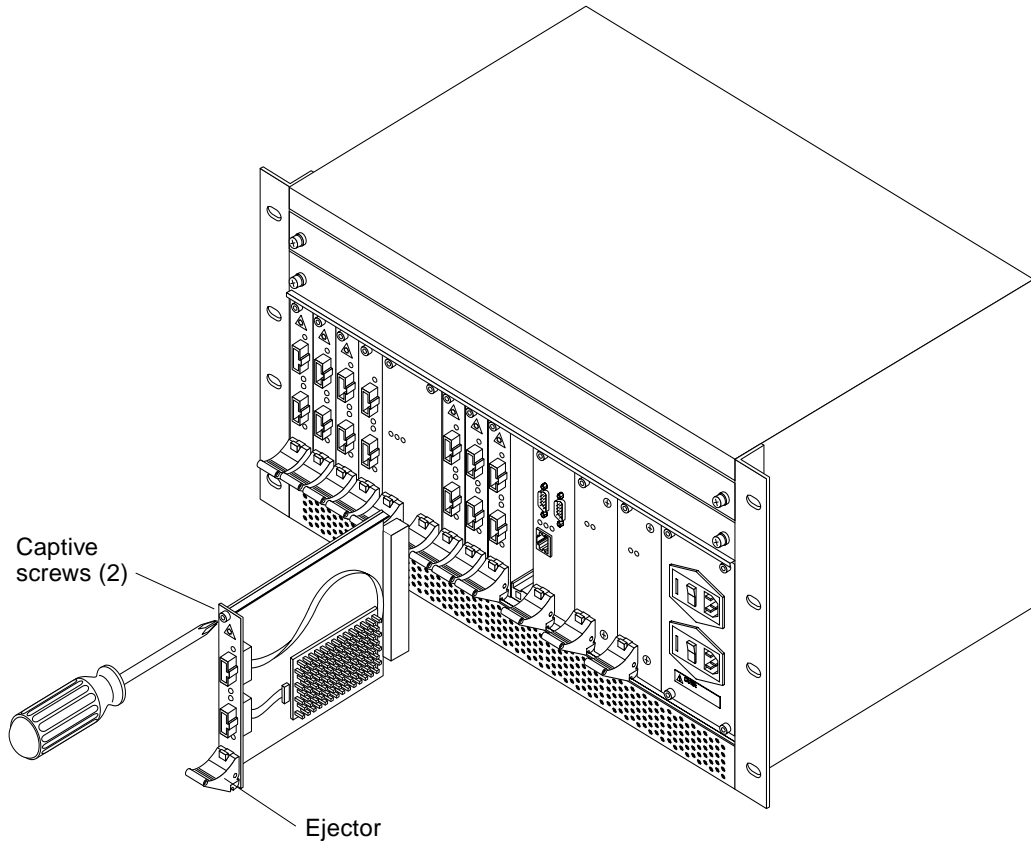

FIGURE 2-3 Adding Optical Module
3. Ensure that the module ejector is unlocked by depressing the ejector red lock button (FIGURE 2-3).